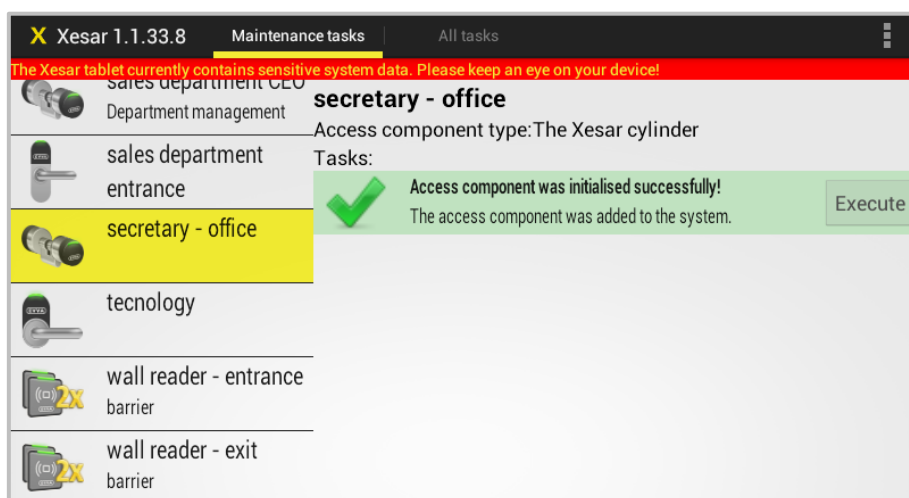

Figure 134: Xesar tablet — successful initialisation
- The system confirms having successfully completed the task (Figure 134: Xesar tablet — successful initialisation).